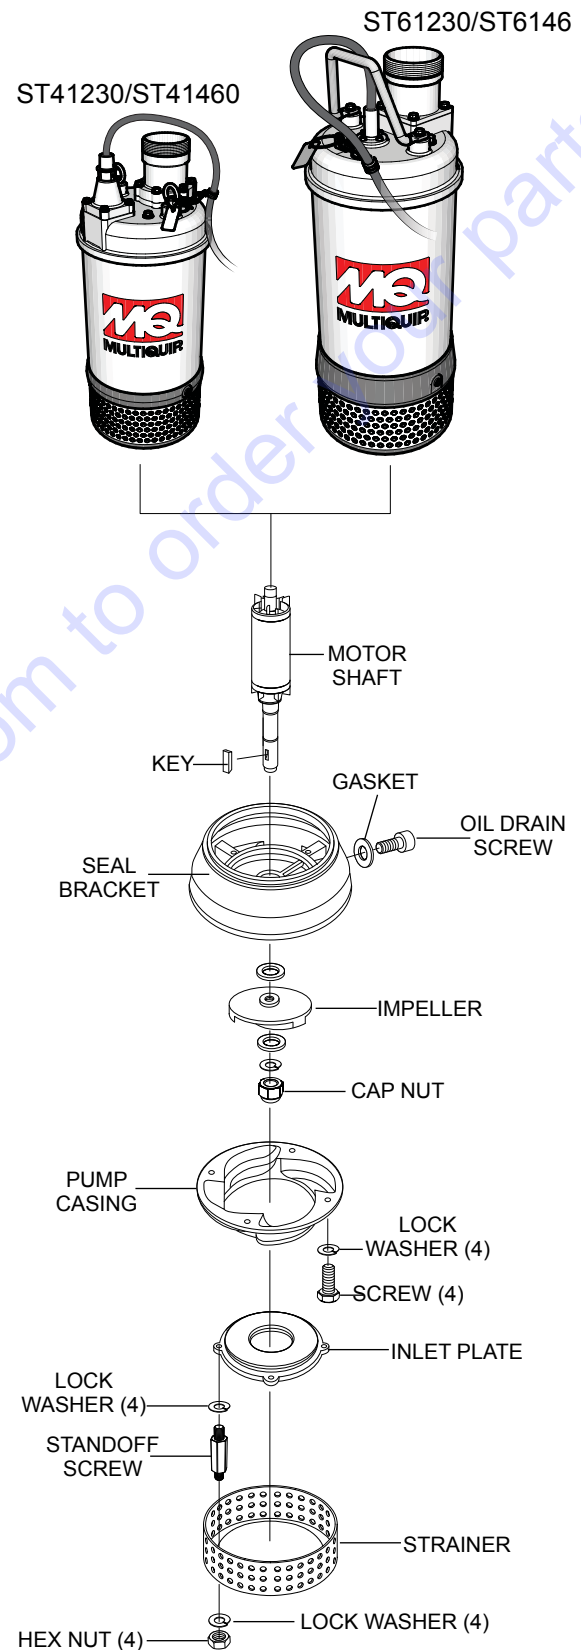

Figure 20. Impeller Removal
Refer to the the following procedure and Figure 20 for the removal of the impeller.
1. Remove oil screw and gasket from the oil fill chamber port. Drain oil from oil chamber as referenced in Figure 20.